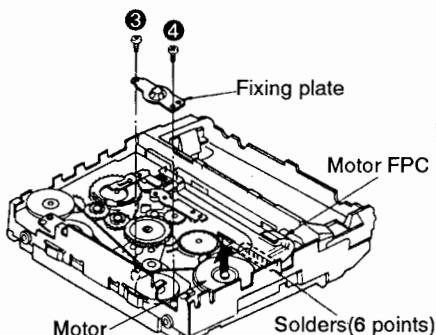

Fig. 2
3. Remove the 2 screws (③, ④) and the fixing plate. (Refer to Fig. 2.)
4. Unsolder the motor FPC (6 points). (Refer to Fig. 2.)
5. Remove the motor in the direction of arrow. (Refer to Fig. 2.)